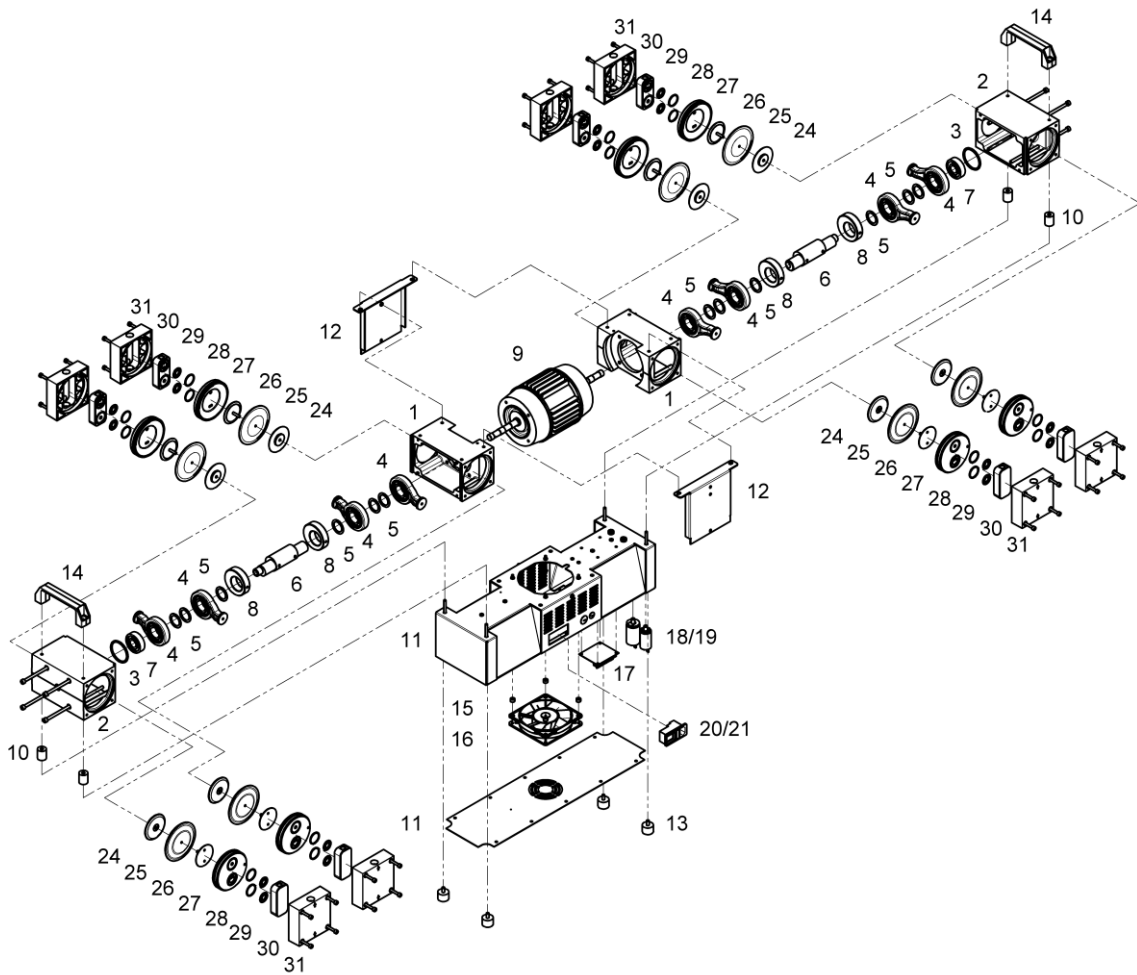

Fig. 5 Exploded view - Basic structure (Diaphragm pumps 8-headed)
3. Bring the connecting rod (see fig. 5) and the diaphragm **(7)** into the central position.